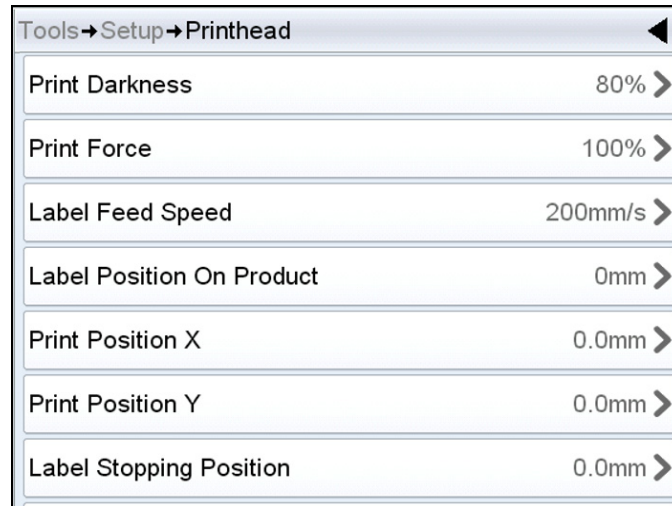

Figure 6-1: Tools - Setup - Printhead
- 1 Navigate to *Tools > Setup > Printhead* and select *Print Position X* (see Figure 6-1).